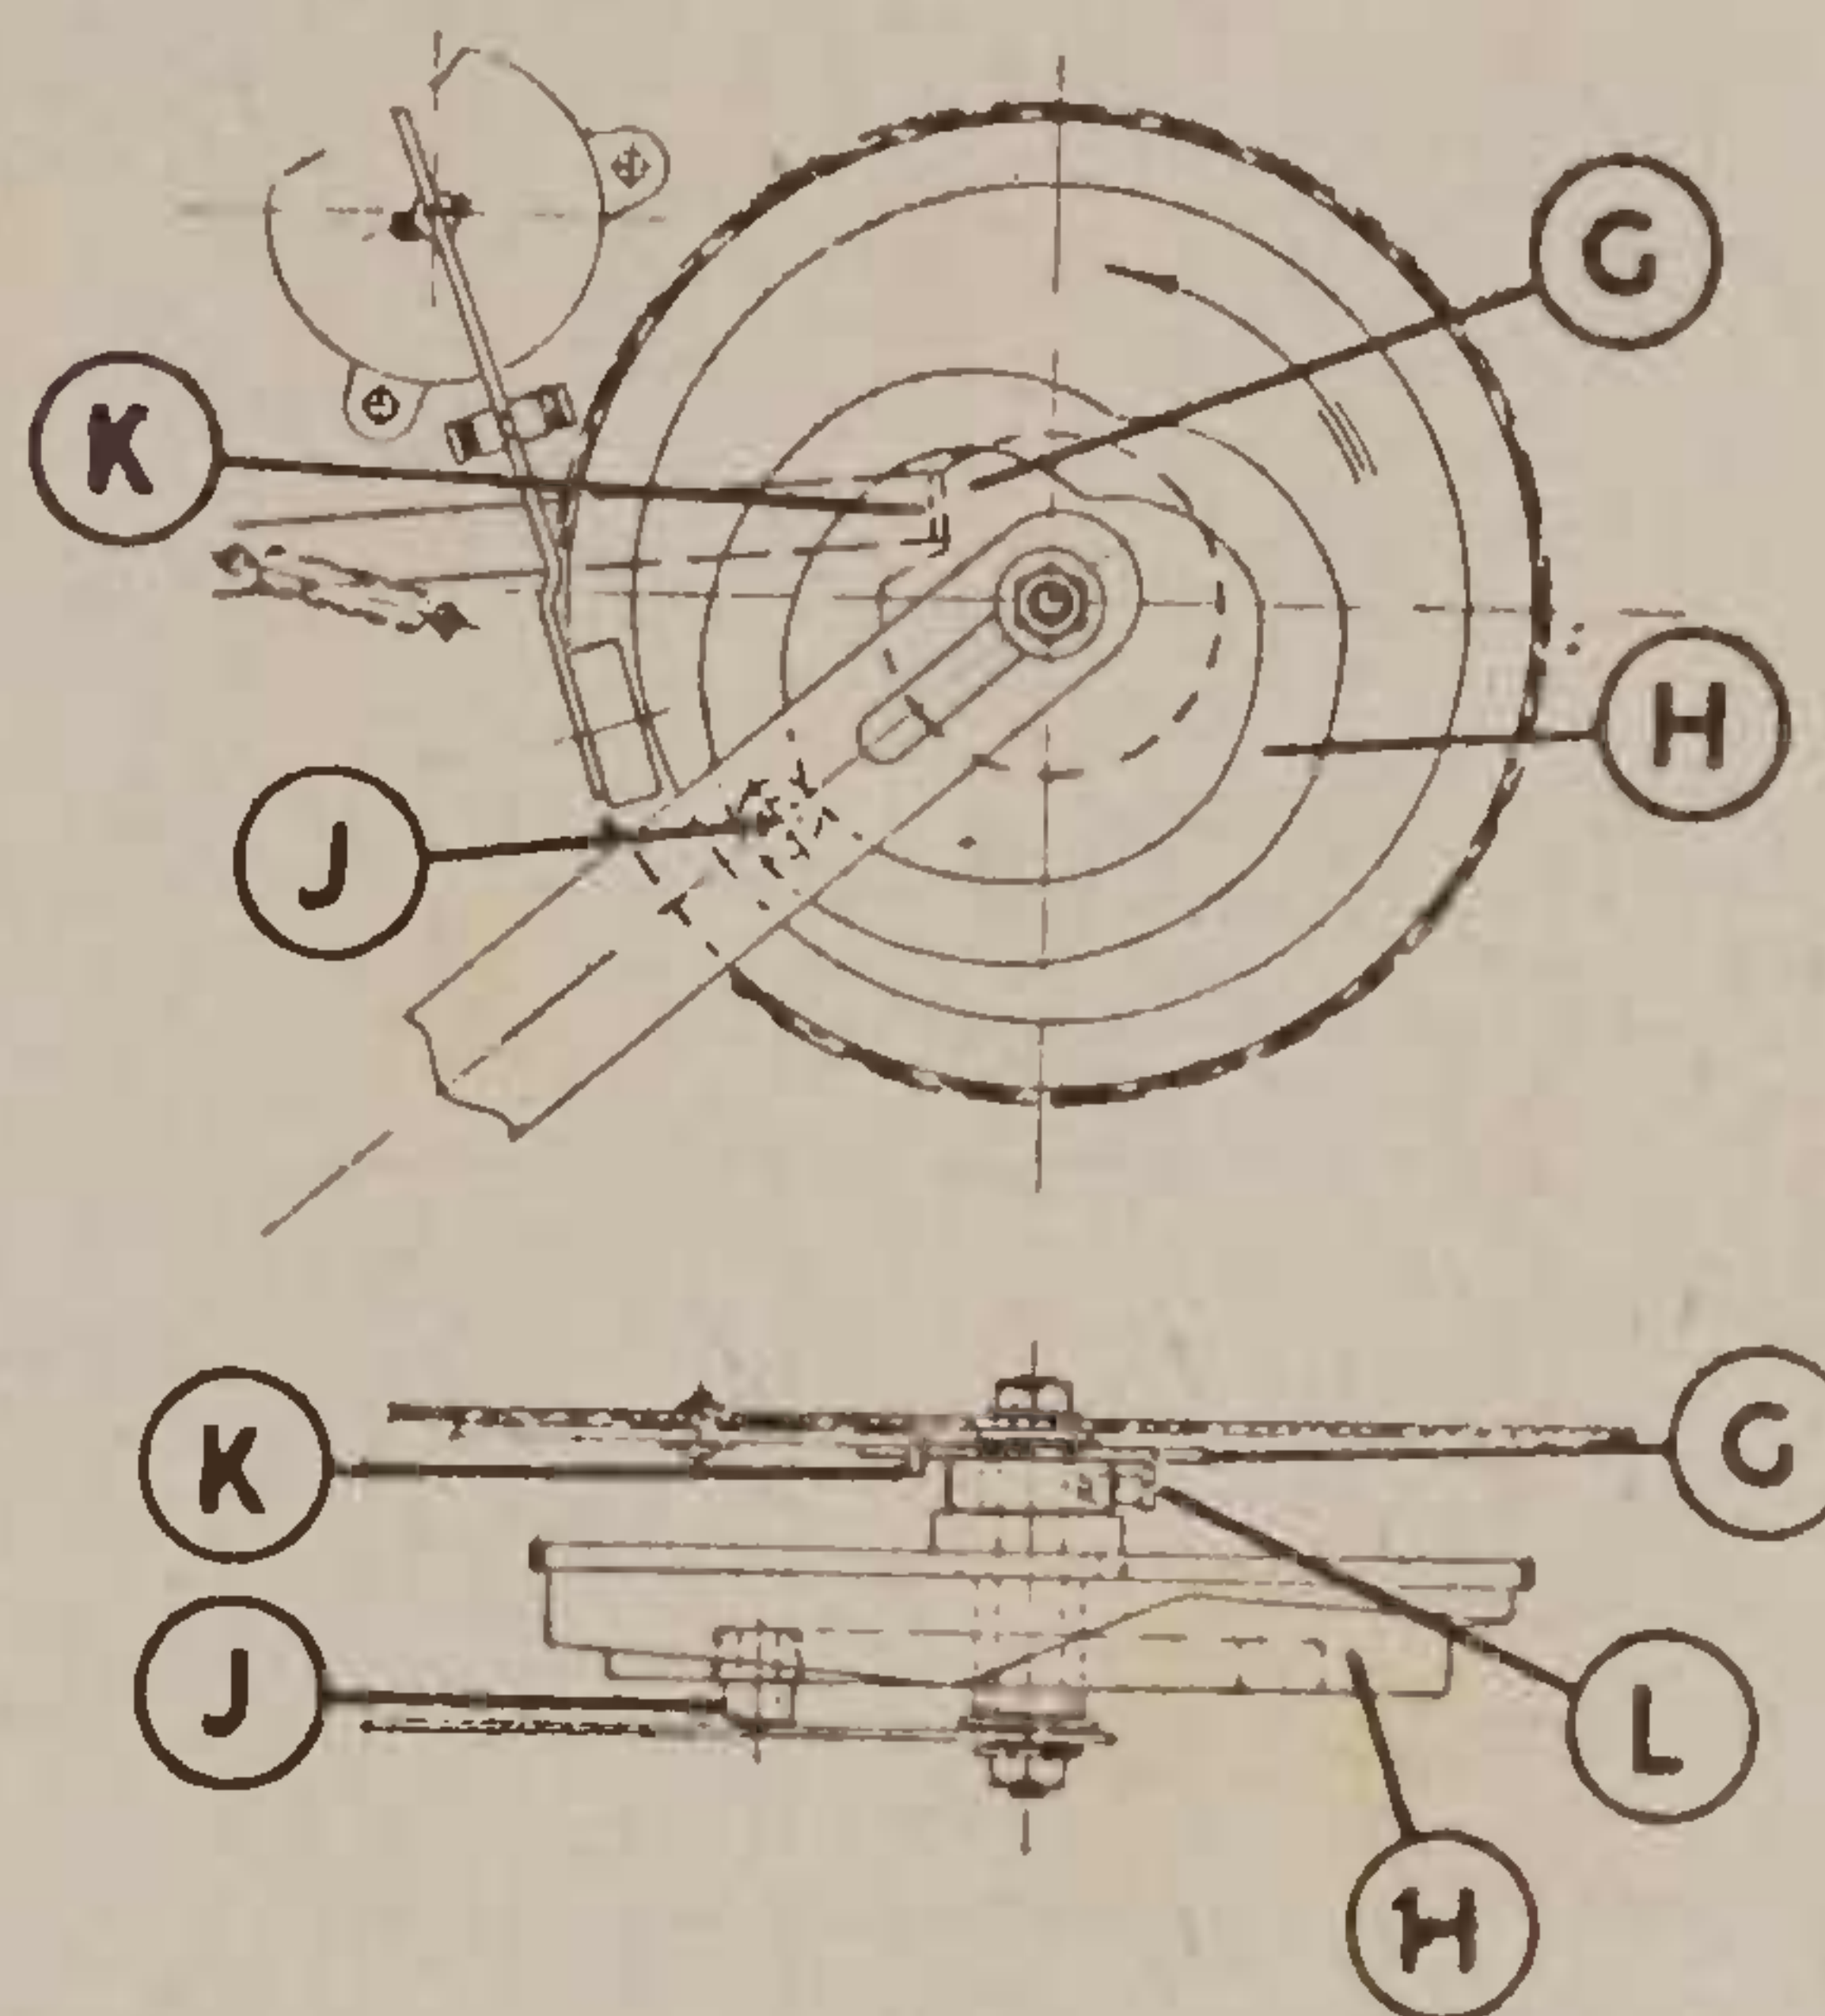

Fig. 3.
2. The anti-jamming cam G, (fig. 1), may have slipped and should be re-set in correct relationship to the main cam H, (fig. 3). The method of adjustment is as follows:—The screw L on the cam G, should be unscrewed. With roller J (fig. 3),
at peak of cam track as shown at (fig. 3), the face of slide K should be set in contact with the face of the cam G as shown in the diagram. Screw L should then be re-tightened.